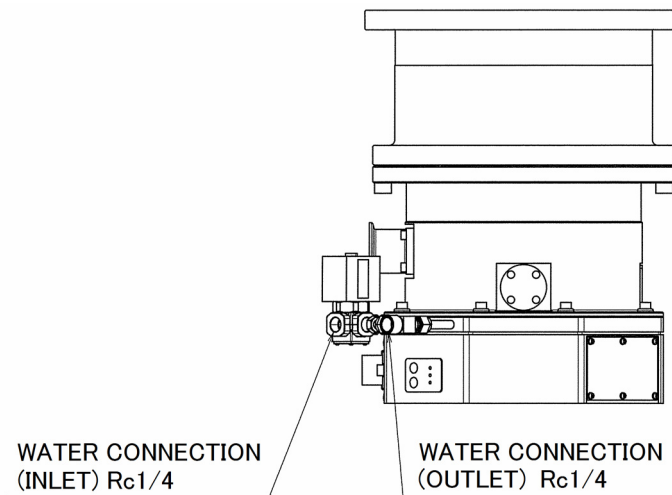

Fig. 5-9 Connector of Cooling Water Line
- (1) Correctly connect the cooling water pipes so that the cooling water is supplied to IN port and discharged from the OUT port, as shown in Fig. 5-9. The valve to isolate (Lockout / Tagout) cooling water should be installed at user equipment.